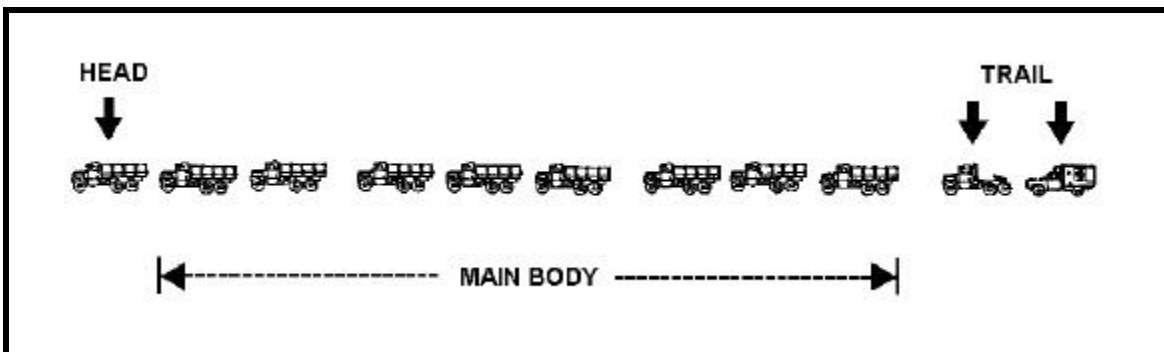

Figure 5-2. Functional elements of a convoy
b. **Convoy Sections.** Leaders must know how to position vehicles within the elements. All columns, serials, and march units, regardless of size, have three parts: a head, a main body, and a trail (Figure 5-2). Each of these parts has a specific function.